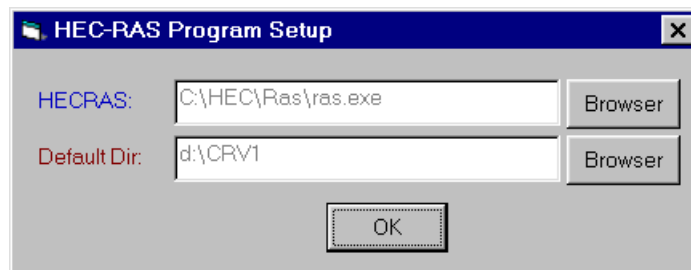

Figure 2. HEC-RAS Program Setup Dialog Box in CHECK-RAS
3. Click the **File** menu, and click the HEC-RAS Setup option. The **HEC-RAS Program Setup** dialog box shown in Figure 2 will appear. If the dialog box is blank, click the Browser button. Locate the “ras.exe” file and click on it. CHECK-RAS will place the path in the **HEC-RAS Program Setup** dialog box. The same procedures can be followed to select a default directory from which you want CHECK-RAS to retrieve the project file. After making the selections, click OK.